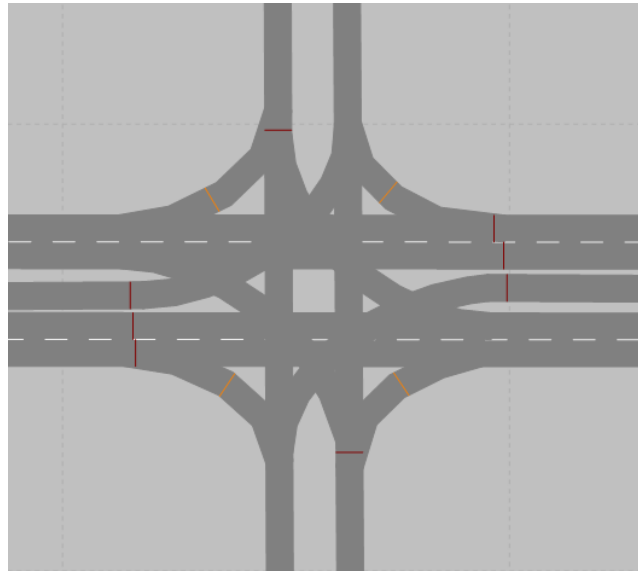

Figure 7: Buzz Blvd and Ramblin St. intersection SG and Signal Head Association
- step ix. Size the map so you can see the Buzz Blvd and Ramblin St. intersection. You should see the *SGs* associated with the *SHs* as in Figure 7 below. If the *SGs* are not correct go to the *Signal Heads* discussion in Module 1 and update the signal heads.